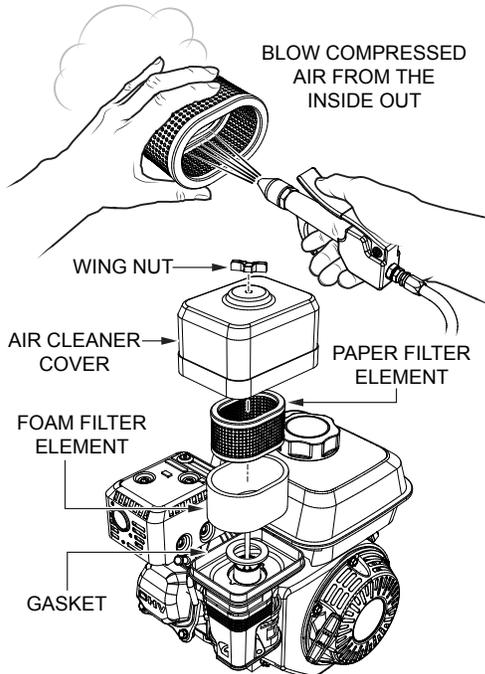

Figure 29. Engine Air Cleaner
1. Remove the air cleaner cover and foam filter element as shown in Figure 29.
2. To remove dirt, tap the paper filter element (Figure 29) several times on a hard surface, or blow compressed air not exceeding 30 psi (207 kPa, 2.1 kgf/cm2) through the filter element from the air cleaner case side. **NEVER** brush off dirt. Brushing will force dirt into the fibers. Replace the paper filter element if it is excessively dirty.